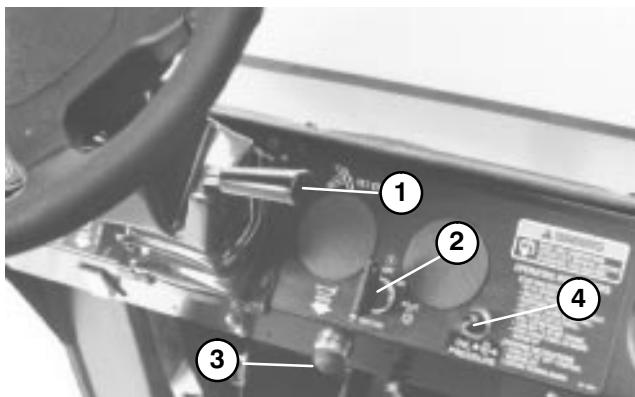

Figure 15
**Horn Button** (Fig. 15) – Pressing button activates horn.
**Ignition Switch** (Fig. 15) – The ignition switch, used to start and stop the engine, has three positions: OFF, RUN and START. Rotate key clockwise — START position — to engage starter motor. Release key when engine starts. The key will move automatically to the ON position. To shut engine off, rotate key counterclockwise to OFF position.
**Oil Pressure Warning Light** (Fig. 15) – Light glows if engine oil pressure drops below a safe level. If light flickers or remains ON, stop vehicle, turn off engine and check oil level. If oil level was low, but adding oil does not cause light to go out when engine is restarted, turn engine off immediately and contact your local TORO distributor for assistance.